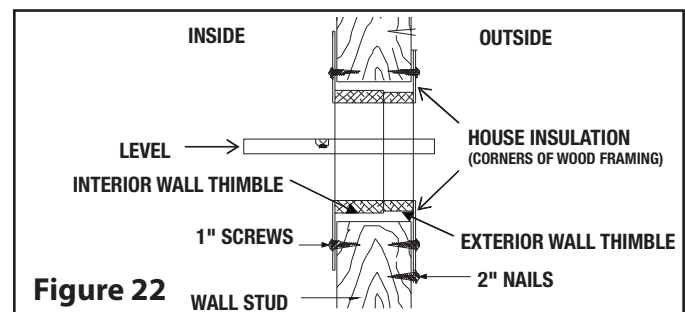

Figure 22
Ensure the opening for the chimney to pass through is straight and level. Screw the outer thimble in place with the provided screws (see Figure 22).
**NOTE:** The cavity surrounding the wall thimble metal shield can be filled with insulation (see Figure 22).